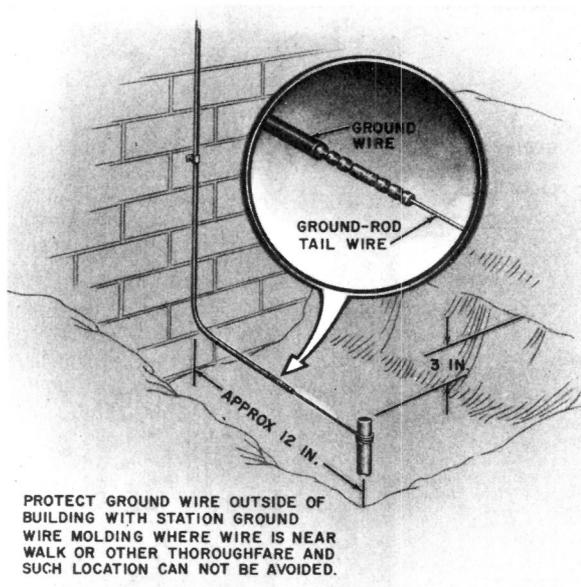

Fig. 67—Ground Rod Installed Near Wall
- Approximately 12 inches from outside walls (Fig. 67).